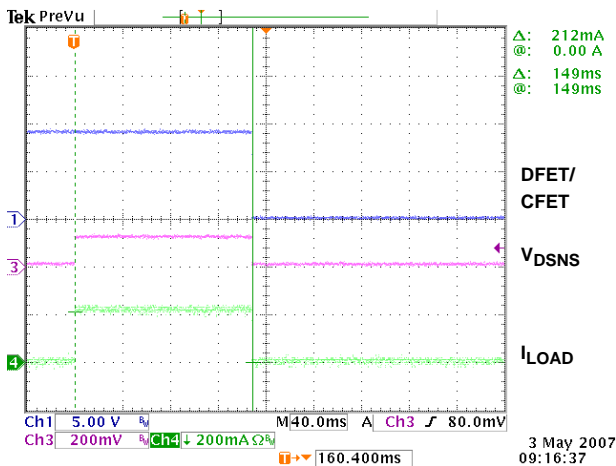

FIGURE 8. DISCHARGE OVERCURRENT TEST (0.1V THRESHOLD, 160ms TIME DELAY, 0.5Ω SENSE RESISTOR)
- Turn on the load. This should cause the FETs to turn off (see Figure 8).